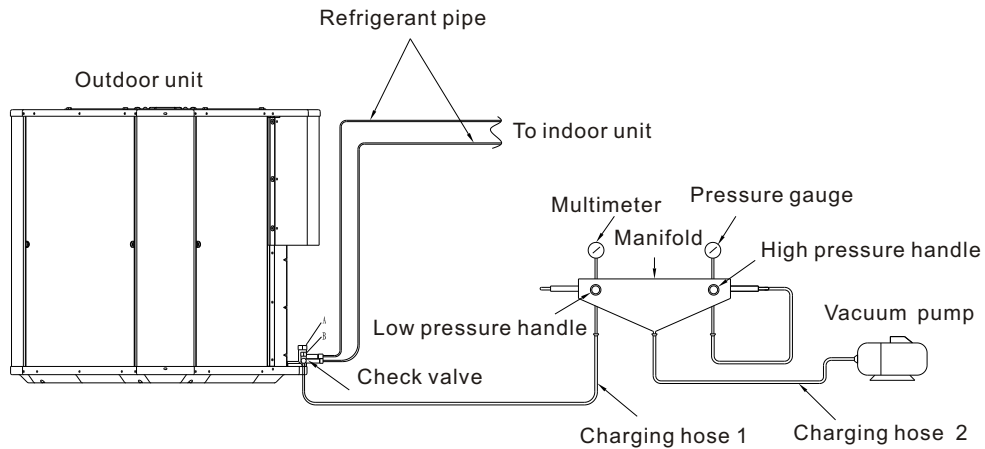

Fig 21
- When connect pipe length over 5 meters(single distance),use vacuum pump to exhaust the air ; As for the unit utilizing R410A, it must use vacuum pump to exhaust the air no matter how long the pipe is . (Refer to Fig 21)
- ① Open Nut A, connect Charging hose 1 of the manifold to valve A (Valve A and B must be turned off). Then connect Charging hose 2 to the vacuum pump.
- ② Open Low pressure handle of the manifold Lo complete.
- ③ Start the vacuum pump to exhaust the air. Open valve B a little to check whether the air come in or not.(The noise from vacuum pump changes and the reading of gauge alters from negative to zero),and then tighten the valve nut.
- ④ After exhausting the air, close Low pressure handle of the manifold ( Lo) completely.
- ⑤ Take down Charging hose at A joint, then tighten the nut.
- ⑥ Unscrew the nuts of valve A and B and turn on Valve A and Valve B, then tighten their nuts.